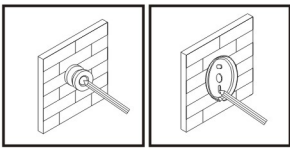

FIGURE 2
- Place mounting bracket at the desire location and mark hole. (FIGURE 2)